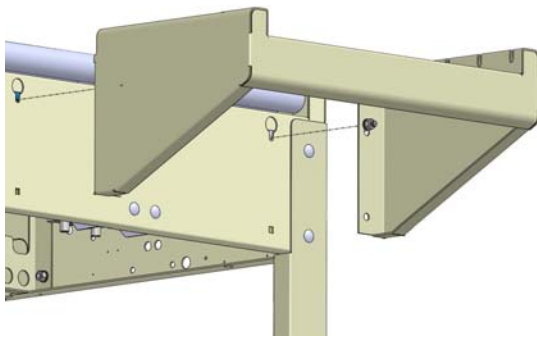

Figure-9B
- Utilizing the slots on the machine base, attach roller table to machine base by locating mounting studs in slots on machine base and push down to lock in place. Per **Figure-9B**.